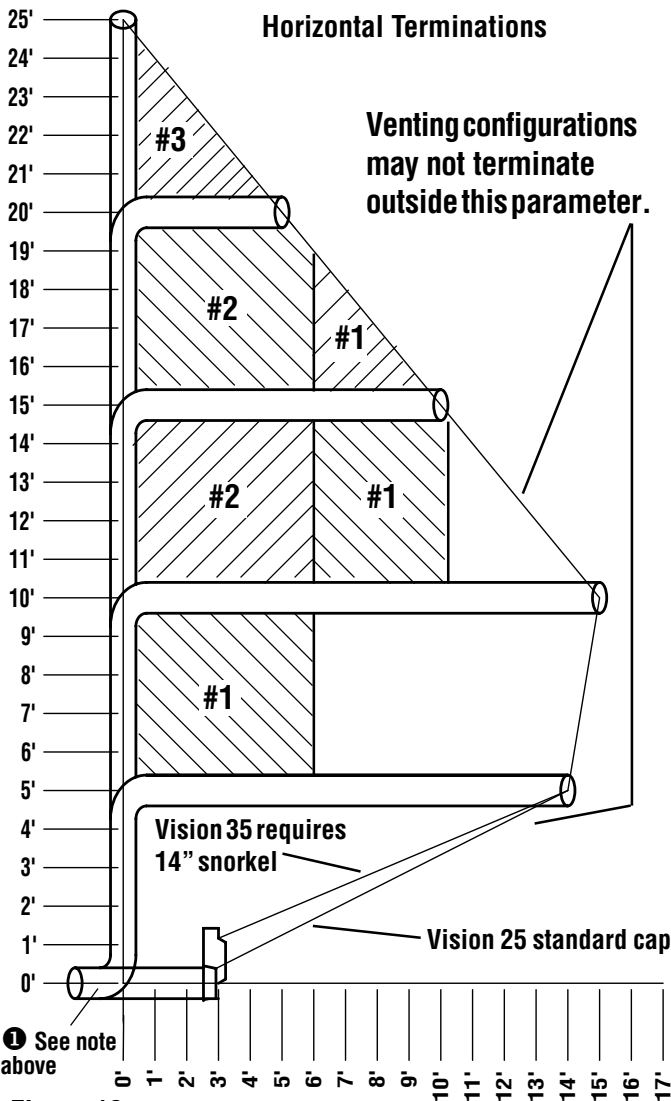

Figure 19
① One 45° elbow is allowed when venting horizontal, straight off the back of the unit. See Figure 19.